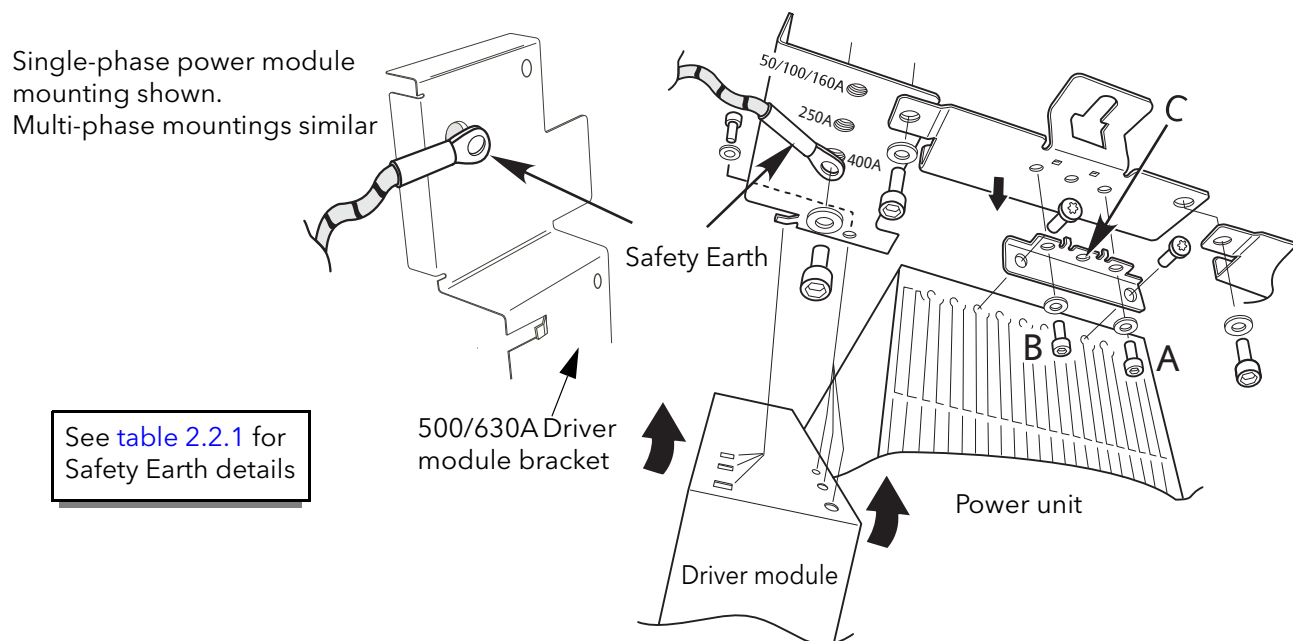

Figure 2.1.1a Bracket fixing details
Figure 2.1.1a, below, shows details of a generalised mechanical assembly for the top of the units. Assembly details for the bottom brackets is similar, except that there is no safety earth fixing. The power module shown is a 400 Amp unit for which the module is fixed to the support brackets using holes A and B. Lower current power modules use only one screw (C) to secure the module to the support bracket.
Figures 2.1.1a to 2.1.1f show fixing centres and other mechanical details for the various modules.